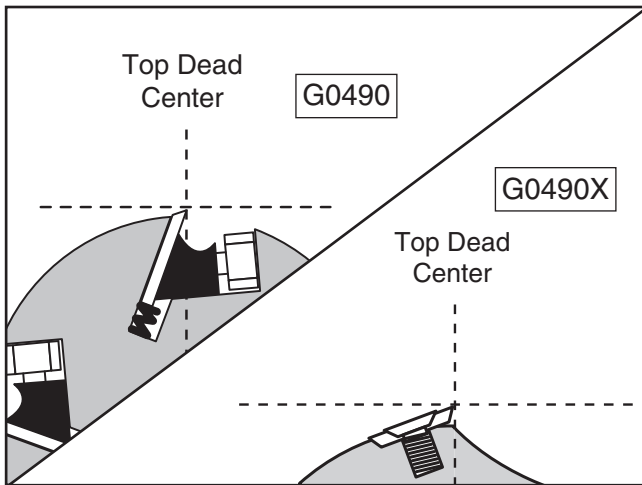

Figure 23. Knife or insert at top dead center.
26. Use cutterhead pulley to rotate cutterhead until one of the knives or inserts is at top dead center (their highest point during rotation), as illustrated in **Figures 23–24**.